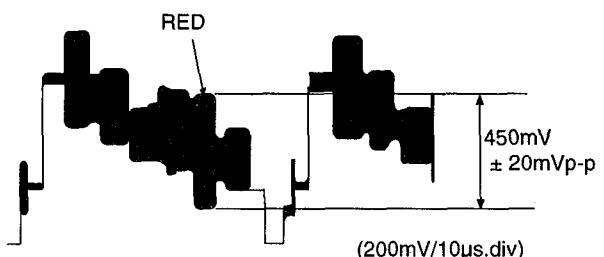

Fig. 3-21
(5) Chroma Gain Adjustment (Figs. 3-21, 3-22)
(Fig. 3-21)